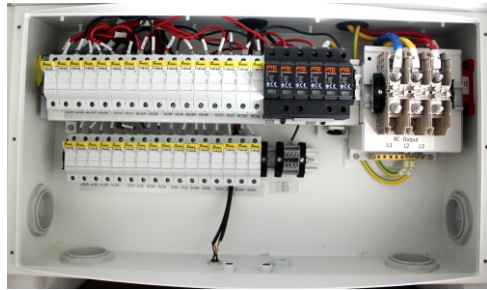

Figure 3.10 Sixteen (16) channels in 2 sections
Figure 3.10 Shows sixteen (16) channels for connecting DC strings. Each channel is protected by a fuse. The included fuses are rated at 15A. Changing fuse size could damage the fuse or leave the module improperly protected. Do not change the fuse size.
Terminal 4 (Figure 3.10) has screw terminals for a multiple inverter communication solution using a standard MODBUS cable such as Belden stranded cable.